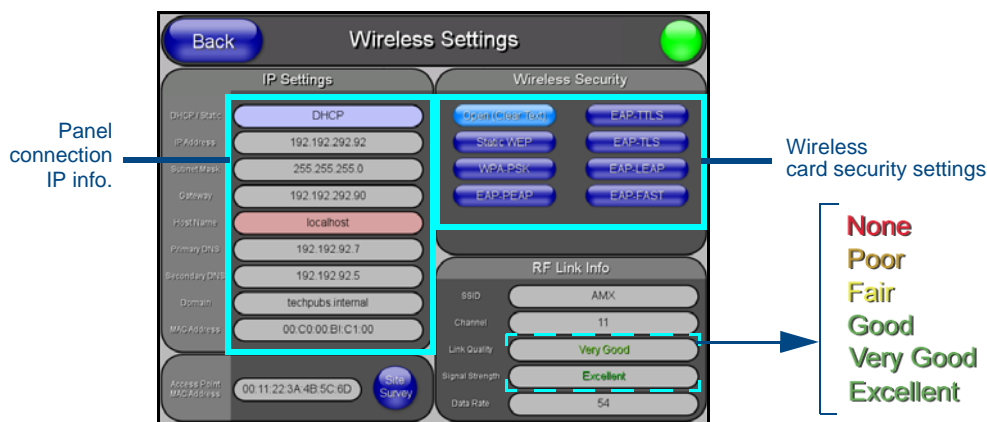

FIG. 28 Wireless Settings page (showing a sample unsecured configuration)
- The descriptions are: **None**, **Poor**, **Fair**, **Good**, **Very Good**, and **Excellent** (FIG. 28).